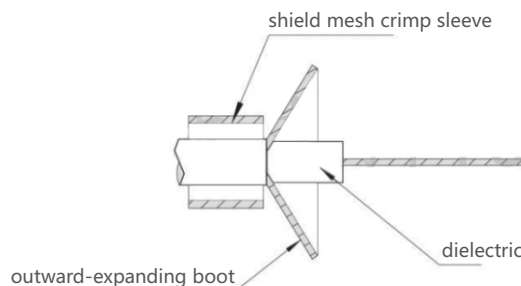

Figure 2.2
②As shown in Figure 2.2, thread the shield crimp sleeve onto the cable jacket.